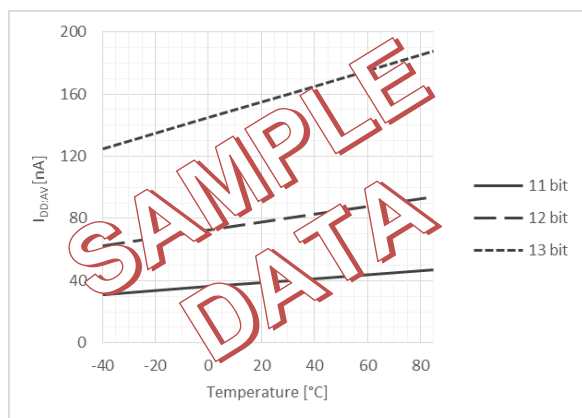

Figure 15: Average supply current (1 measurement/min)
1. Considering one temperature measurement every 60 seconds. Note that the average operating current increases with the measurement time  $t_M$  (section 10.3), which depends on the temperature (Figure 15).